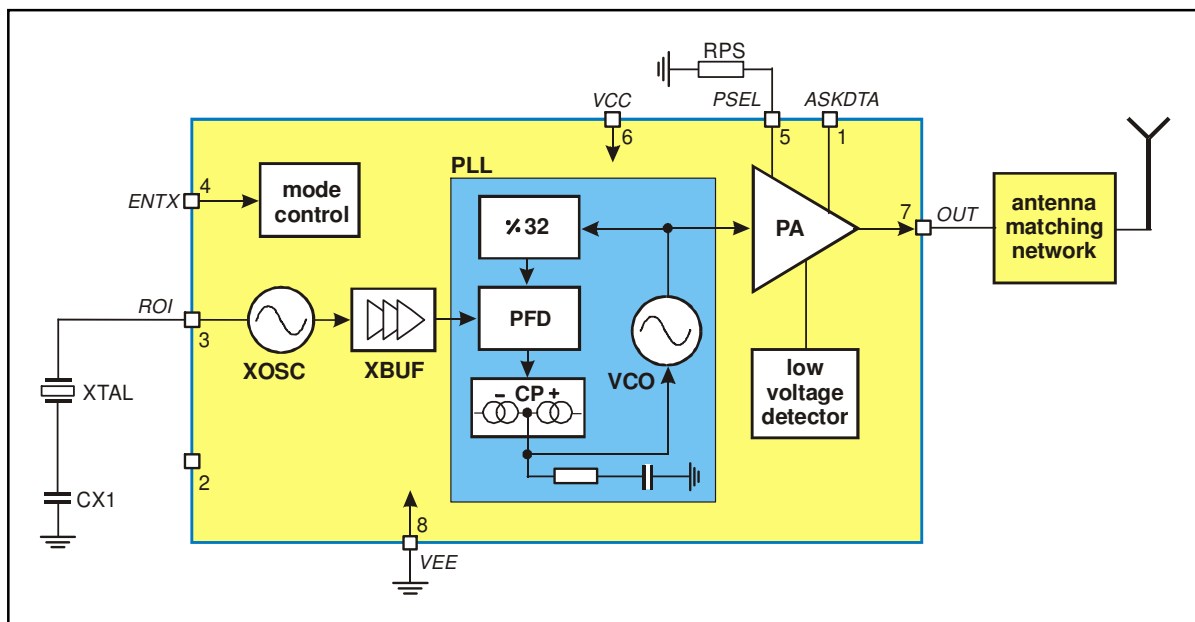

Fig. 1: Block diagram with external components
As depicted in Fig.1, the TH72032 transmitter consists of a fully integrated voltage-controlled oscillator (VCO), a divide-by-32 divider (div32), a phase-frequency detector (PFD) and a charge pump (CP). An internal loop filter determines the dynamic behavior of the PLL and suppresses reference spurious signals. A Colpitts crystal oscillator (XOSC) is used as the reference oscillator of a phase-locked loop (PLL) synthesizer. The VCO's output signal feeds the power amplifier (PA). The RF signal power P_{out} can be adjusted in four steps from $P_{out} = -12$ dBm to +9.5 dBm, either by changing the value of resistor RPS or by varying the voltage V_{PS} at pin PSEL. The open-collector output (OUT) can be used either to directly drive a loop antenna or to be matched to a 50Ohm load. Bandgap biasing ensures stable operation of the IC at a power supply range of 1.95 V to 5.5 V.